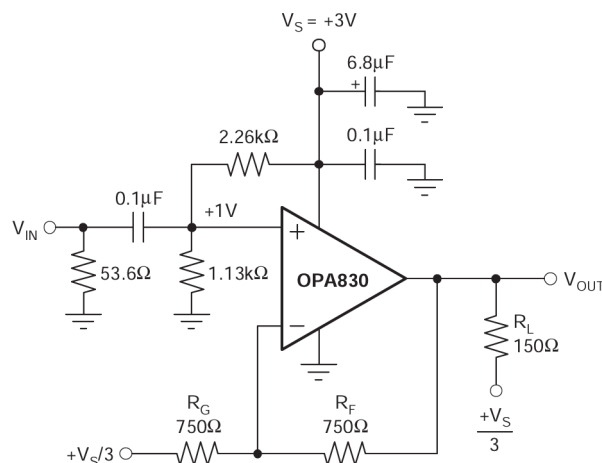
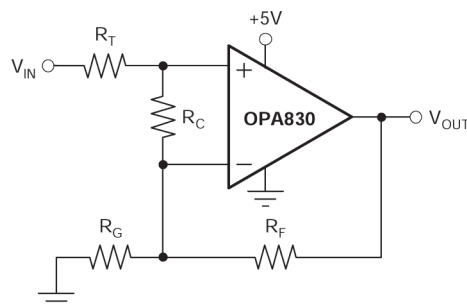

Figure 8-2. AC-Coupled, $G = +2$, +3V Single-Supply Specification and Test Circuit
Figure 8-9. Compensated Noninverting Amplifier
at $T_A = 25^\circ\text{C}$, $G = +2$, and $R_L = 150\Omega$ to $V_S/3$ (unless otherwise noted); see also Figure 8-2
Figure 8-2 shows the ac-coupled, gain of +2 configuration used for the 3V *Electrical Characteristics* and *Typical Characteristics*. For test purposes, the input impedance is set to 50Ω with a resistor to ground. Voltage swings reported in the *Electrical Characteristics* are taken directly at the input and output pins. For the circuit of Figure 8-2, the total effective load on the output at high frequencies is 150Ω || 1500Ω. The 1.13kΩ and 2.26kΩ resistors at the noninverting input provide the common-mode bias voltage. The parallel combination equals the dc resistance at the inverting input (R_F), reducing the dc output offset due to input bias current.
Frequency response in a gain of +2 can be modified to achieve exceptional flatness simply by increasing the noise gain to 3. One method, without affecting the +2 signal gain, is to add a 2.55kΩ resistor across the two inputs (see also Figure 8-9). A similar technique can be used to reduce peaking in unity-gain (voltage follower) applications. For example, by using a 750Ω feedback resistor along with a 750Ω resistor across the two op amp inputs, the voltage follower response is similar to the gain of +2 response of Figure 8-2. Further reducing the value of the resistor across the op amp inputs further dampens the frequency response due to increased noise gain. The OPA830 exhibits minimal bandwidth reduction going to single-supply (5V) operation as compared with ±5V. This minimal reduction is because the internal bias control circuitry retains nearly constant quiescent current as the total supply voltage between the supply pins changes.
The criterion for setting this R_S resistor is a maximum bandwidth, flat frequency response at the load. For a gain of +2, the frequency response at the output pin is already slightly peaked without the capacitive load, requiring relatively high values of R_S to flatten the response at the load. Increasing the noise gain also reduces the peaking (see Figure 8-9).
Figure 8-9 shows a noninverting amplifier that reduces peaking at low gains. Resistor R_C compensates the OPA830 to have greater noise gain (NG), which reduces the ac response peaking (typically 5dB at $G = +1$ without R_C) without changing the dc gain. V_{IN} must be a low impedance source, such as an op amp. The resistor values are low to reduce noise. Using both R_T and R_F helps minimize the impact of parasitic impedances.